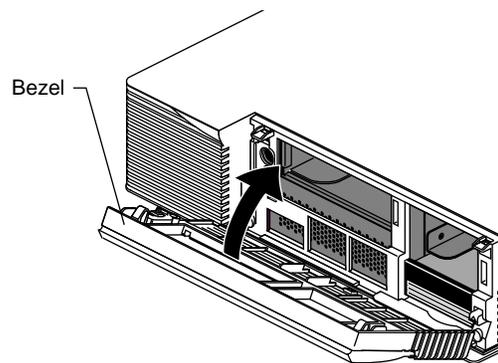

Figure 1-35 Replacing the Bezel
4. Replace the bezel. See Figure 1-35.